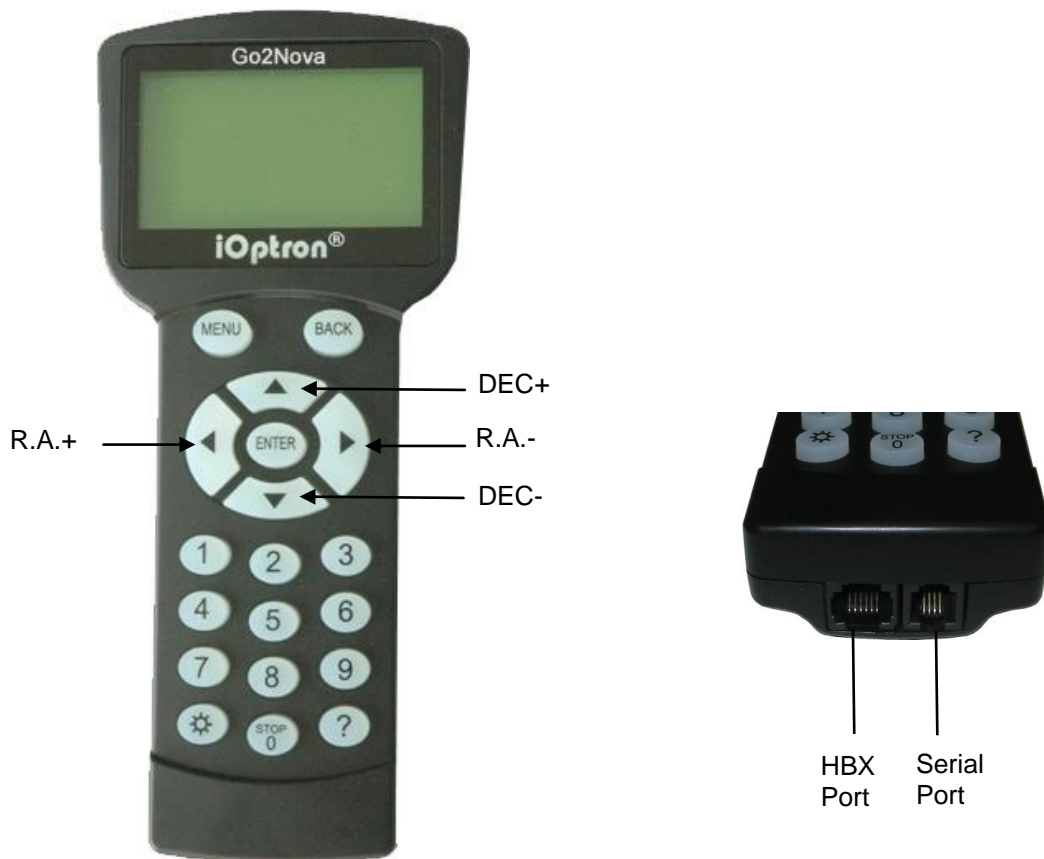

Figure 8. Go2Nova® 8407+ hand controller
The Go2Nova® 8407+ hand controller (HC) shown in Figure 8 is the standard controller used on the CEM120 mount. It has an integrated heater that ensures the LCD display will work at the temperature as low as -20°C(-4°F). It has a large LCD screen, function, direction, and number keys on the front; a red LED reading light on the back; and a HBX (6-pin) and a serial port (4-pin) at the bottom.